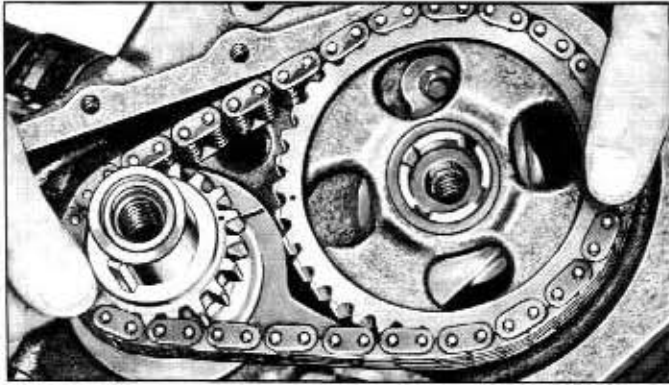

Fig. 6A-25—Timing Chain and Sprockets Removal—(60C-5624)
- sprockets and timing chain forward and remove them as an assembly. See figure 6A-25.